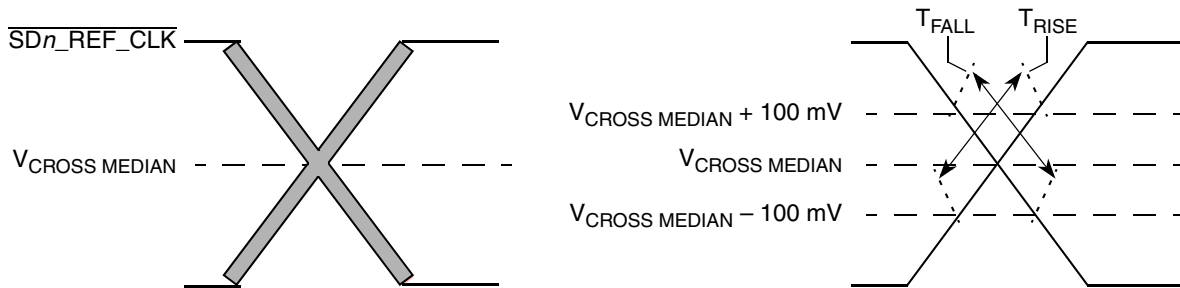

Figure 38. Single-Ended Measurement Points for Rise and Fall Time Matching
6. Matching applies to rising edge for SD_REF_CLK \bar{n} and falling edge rate for $\overline{\text{SD_REF_CLK}}_n$. It is measured using a 200 mV window centered on the median cross point where SD_REF_CLK \bar{n} rising meets $\overline{\text{SD_REF_CLK}}_n$ falling. The median cross point is used to calculate the voltage thresholds that the oscilloscope uses for the edge rate calculations. The rise edge rate of SD_REF_CLK \bar{n} must be compared to the fall edge rate of $\overline{\text{SD_REF_CLK}}_n$, the maximum allowed difference should not exceed 20% of the slowest edge rate. See Figure 38.